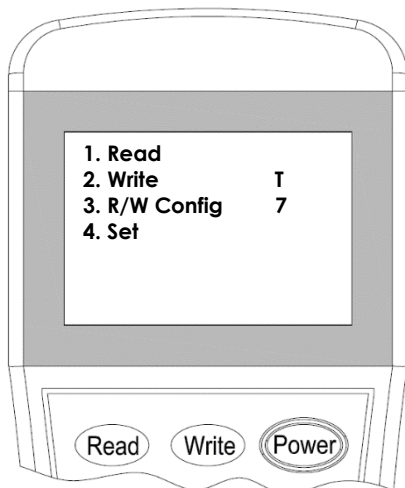
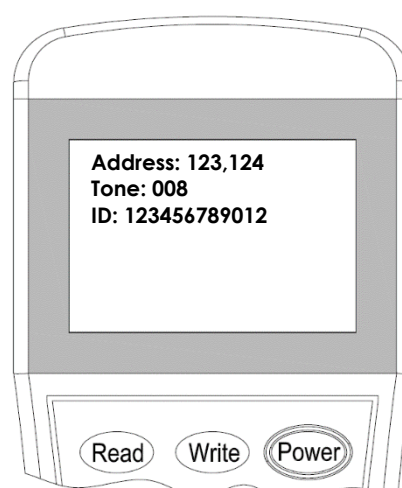

Figure 17
Figure 18
2. Switch-on the programmer, then press button **"Read"** or **"1"** to enter to Read mode (Figure 17). The programmer will display the configuration after few seconds. (Figure 18).